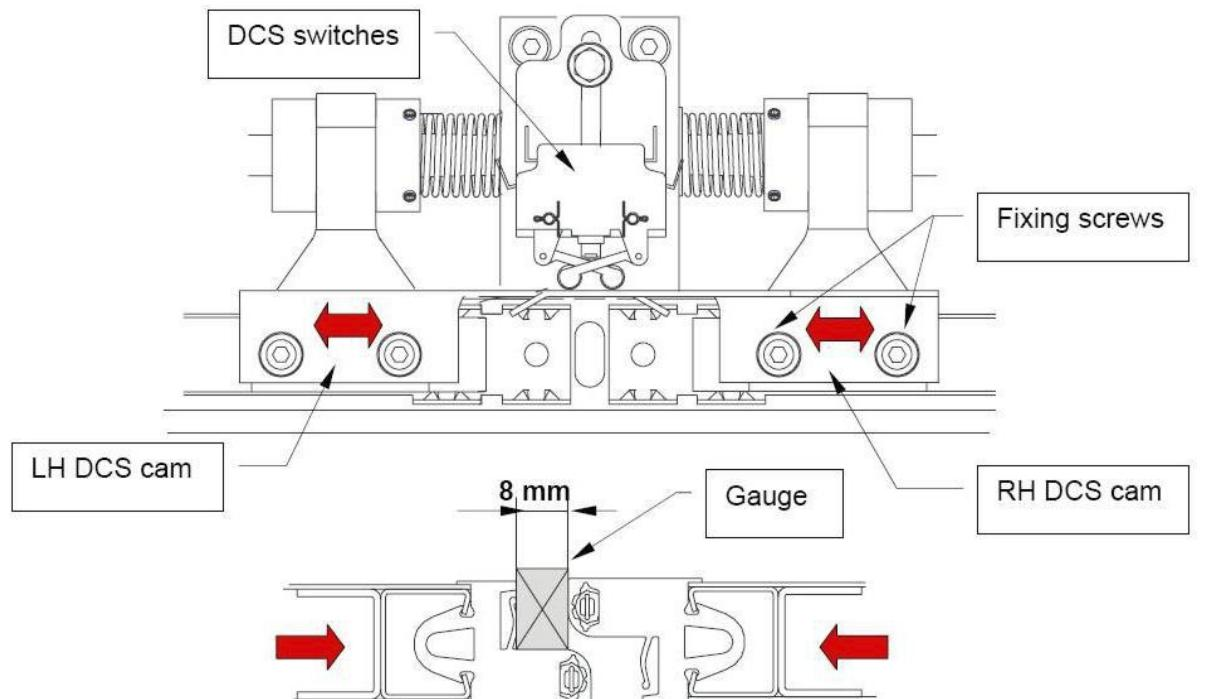

FIGURE 4 - DCS CAMS HORIZONTAL ADJUSTMENT
2. DCS Cams Horizontal Adjustment (refer to Figure 4):
- Make the Door ajar and insert a **0.3 inch (8 mm) Gauge** between the Front Door Seals as shown in Figure 4.